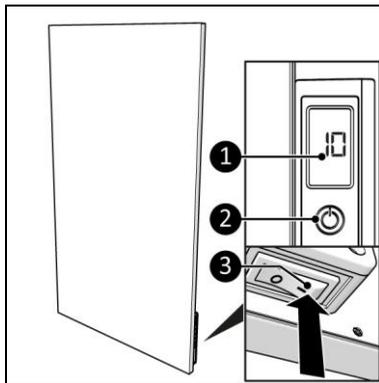

Figure 18
1. Set the ON/OFF switch to the ON position (Figure 18, pos. 3).
2. Press the ON/OFF button on the control panel (Figure 18, pos. 2) or on the remote control.
3. The display (Figure 18, pos. 1) will first show the set temperature for 3 seconds followed by the ambient temperature.